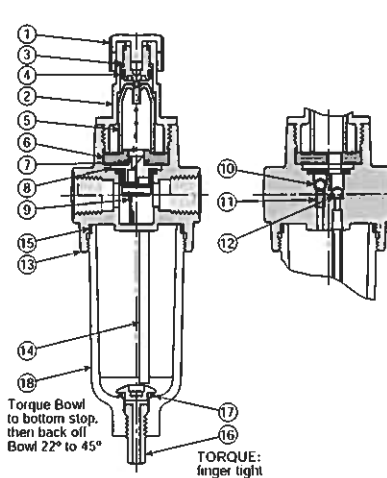

Figure 1: Mist Lubricator
**Mist Lubricators (Figure 1)**